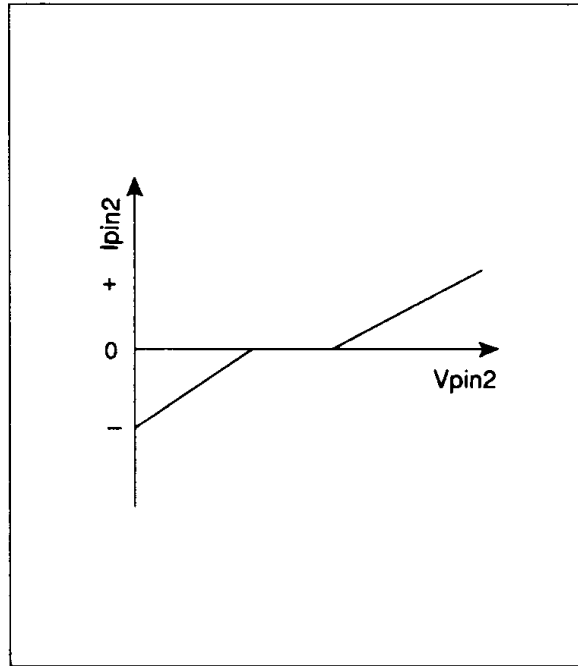
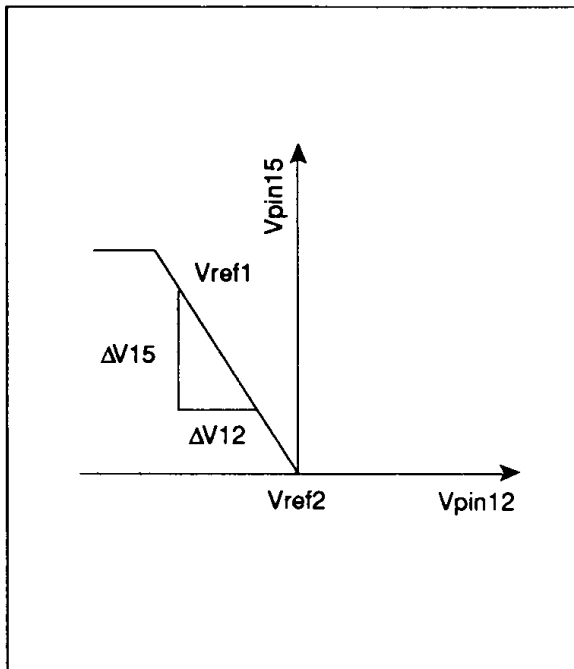

Figure 2
Figure 3
3. See Figure 2.
5. Voltage from Vref2.
6. See Figure 3.  $G_{ct1} = 20 \log_{10} \frac{\Delta V_{15}}{\Delta V_{12}}$